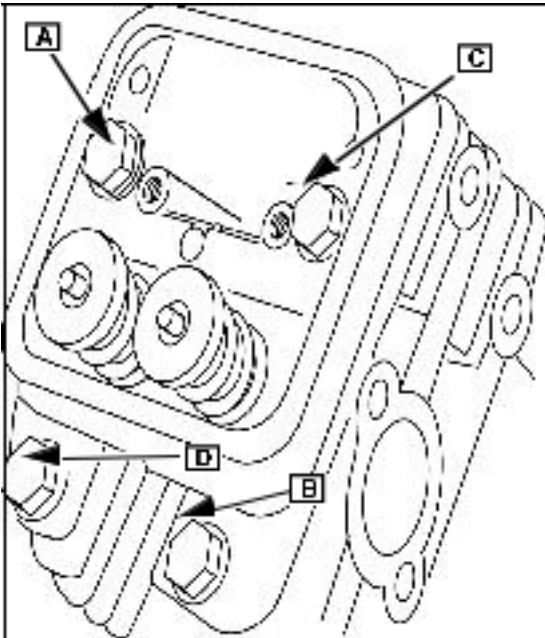

Fig. 7
Remove head bolts ([A, B, C & D] Fig.7) and cylinder head.
NOTE: Engines manufactured before 940501xx were equipped with sealing washers under cylinder head bolts (A) and ([C] Fig. 7).